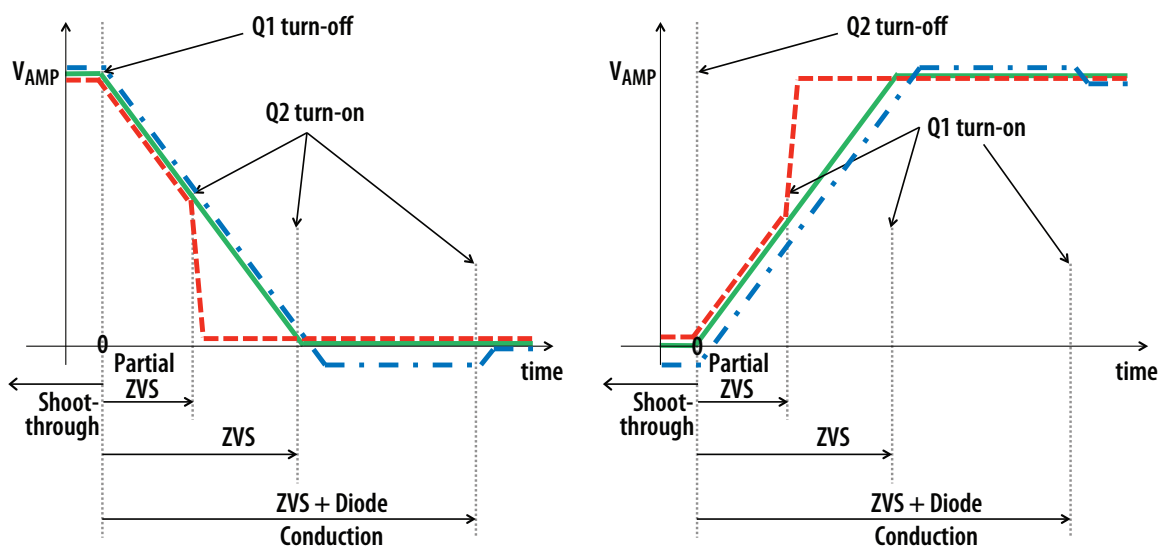

Figure 4: ZVS Timing Diagrams
Setting the correct time to establish ZVS transitions is critical to achieving high efficiency with the EPC9507 amplifier. This can be done by selecting the values for R71, R72, R77, and R78 respectively. This procedure is best performed using potentiometers P71, P72, P77, and P78 installed that is used to determine the fixed resistor values. The procedure is the same for both single ended and differential mode of operation (as applicable per operating mode). The timing MUST initially be set WITHOUT the source coil connected to the amplifier. The timing diagrams are given in Figure 4 and should be referenced when following this procedure. Only perform these steps if changes have been made to the board as it is shipped preset.
6. While observing the oscilloscope adjust P71 or P77 for the rising edge of the waveform so achieve the green waveform of figure 4. Repeat for the falling edge of the waveform by adjusting P72 or P78. Repeat for the other eGaN FET pair if using differential mode operation.